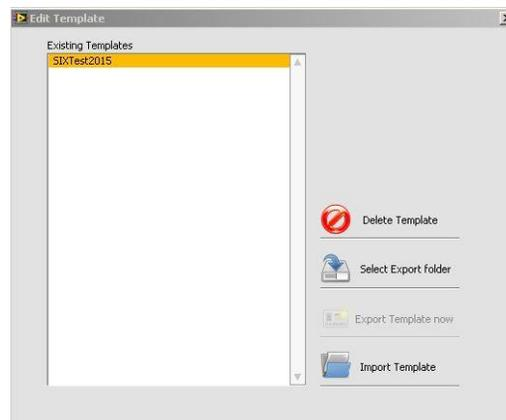

Figure 54: Edit Template
**Import/Export Template**. The Edit Template window will be opened (Figure 54) where you can delete templates by selecting the template in the Existing Template list and then click  **Delete Template**. If you want to export your template then select  **Select Export Folder**. Just navigate to your destination folder and click select folder. The Button  **Export Template now** will be enabled and if you click it your data will be saved in a new folder with the format: YourModelName_export_data at your destination. In this folder you will find the template file (rgt format) and the specific model file. Copy this folder to your other system where SphinxSuite is installed and navigate there to the same Edit Template window where you can click  **Import Template**. Navigate to your imported folder and click on select folder. After that you will be asked where you want to save your model (Please don't move models to a different location after a template is created, you will get an error if you try to load that template again because the assignment is lost. Use always Import and Export template to move files which belong to your template)